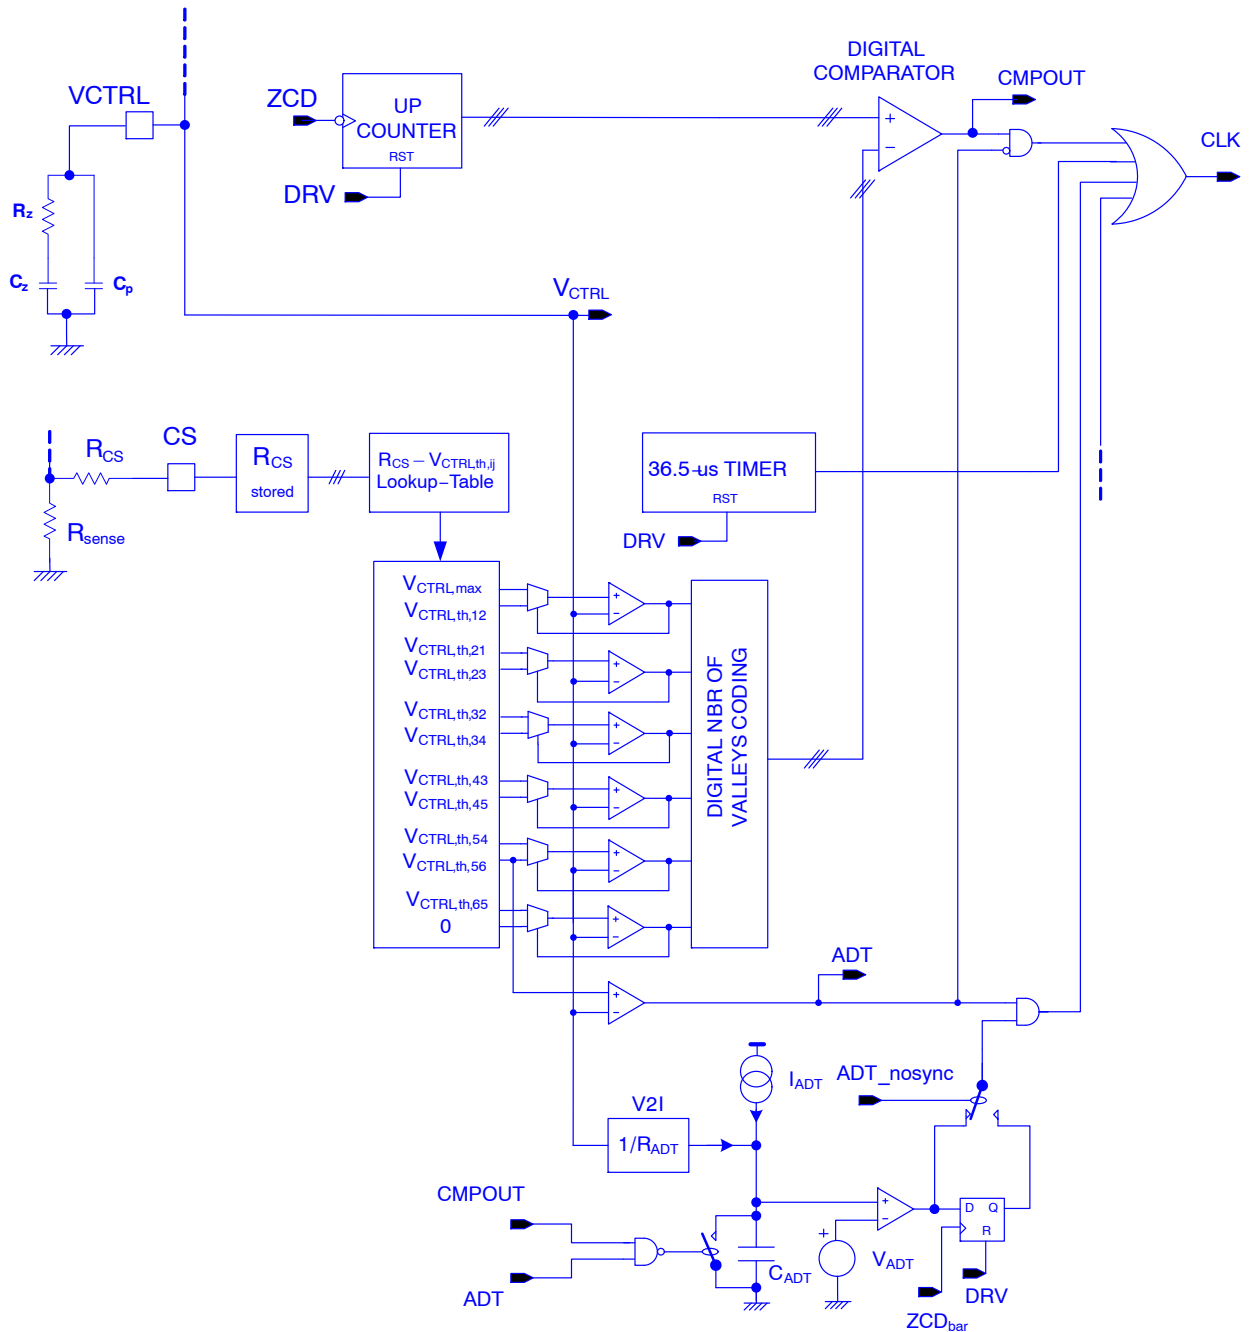

Figure 4. Valley Count Turn-on Block Diagram
- **Valley Count Frequency Fold-back:** NCL2801 is designed to drive PFC boost stages in so-called Valley Count Frequency Fold-back (*VCF*). In high load current condition, the circuit classically operates in *Critical conduction Mode (CrM)* also called 1st valley switching. When output power is decreasing, if a threshold is reached (determined by sensing the CS pin impedance during initial power up), a dead time based on a number of valleys is added. The number of valleys will increase, each time a dead time window (based on  $V_{CTRL}$  value) is entered. By construction, this counting process will avoid valley hopping during the mains voltage period. If the output power continues decreasing and the 6th valley is reached, extra “analog” dead time will be added based on a voltage ramp (see Figure 4). On-time will be synchronized with a valley. A timer will clamp the total switching period to not exceed 36.5  $\mu$ s (the switching frequency will never go under about 27.4 kHz). The switching frequency depends on output voltage, input voltage, and boost inductor value, and increases as the load power increases. Hysteresis is added to the  $V_{CTRL}$  control windows to avoid valley hopping during steady state conditions. *VCF* maximizes the efficiency at both nominal and light load. Similarly to *FCCrM* controllers, an internal circuitry allows near-unity power factor even when the switching frequency is reduced.
valley number count up to 6 valleys (the number of valleys between end of inductor demagnetization and power MOSFET turn-on determines the dead time value). After counting is done, the power MOSFET turns on at drain voltage valley. When 6th valley is reached and VCTRL voltage stays under 0.77 V, an extra “analog” dead time is added based on a voltage ramp (see Figure 4). The added analog dead time  $t_{ADT}$  is based on 0.77 V minus VCTRL value.  $t_{ADT}$  will be equal to zero when  $(0.5\text{ V} - V_{CTRL}) = 0\text{ V}$  and will increase monotonically versus VCTRL decreases while VCTRL is under the 0.77 V threshold corresponding to  $V_{CTRL,th,56}$ . The analog dead time added  $t_{ADT}$  will equal typically 20  $\mu\text{s}$  when  $V_{CTRL}=0.5\text{ V}$ .
means of counting the falling edges of the ZCD signal until the counter reaches the number of valleys set by the window in which the VCTRL pin voltage is (see Figure 4). The 3-bit counter allows to work “Valley synchronized” up to 6 valleys. When the 6th valley is reached, and VCTRL is lower than 0.770 V ( $V_{CTRL,th,56} = 0.770$  V whatever frequency foldback threshold setting), an additional analog dead time will be added to the 6 valleys dead time and there will be valley synchronization turn-on of the power MOSFET ( $ADT\_nosync = 0$  by default) based on falling edge of ZCD signal. The total dead-time (number of valleys and extra analog dead-time) will not exceed 36.5  $\mu$ s. As a result of this timer the minimum switching frequency will not go under 27.4 kHz.
There will be a different DCM to CrM threshold than CrM to DCM making an hysteresis to avoid valley hopping (see Table 7 and Figure 4).
results from output power decrease. We can also mention looking at Figure 7 and the specified frequency foldback thresholds of Table 7 that  $V_{CTRL,th,56}$  which is the  $V_{CTRL}$  threshold at which we force counting 6 valleys, has always the same value. This threshold is also called  $V_{CTRL,ADT}$  because when  $V_{CTRL}$  pin voltage falls under this threshold, an analog dead-time starts to be added to the dead-time determined by counting 6 valleys. The lower  $V_{CTRL}$  pin voltage goes under  $V_{CTRL,ADT}$  threshold, the more analog dead time is added. An example on how the analog dead time can be added is shown in the circuit of Figure 4 and the correspond power MOSFET drain voltage is shown in Figure 3.